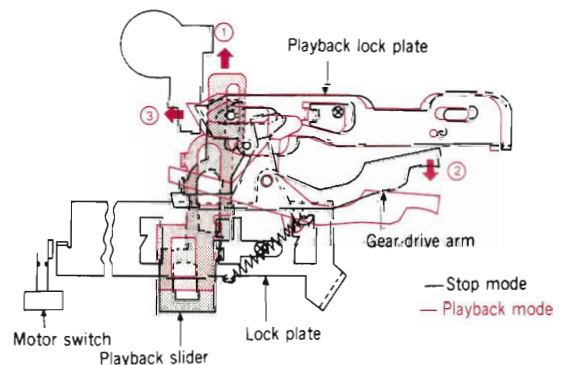

Fig. 1
- 1) When the playback button is pressed, the playback slider shown in Fig. 1 slides in the direction of the arrow ①. After this, the gear-drive arm and the playback lock plate slide in the directions of arrows ② and ③ and lock in the positions shown in color, by means of the playback lock plate.